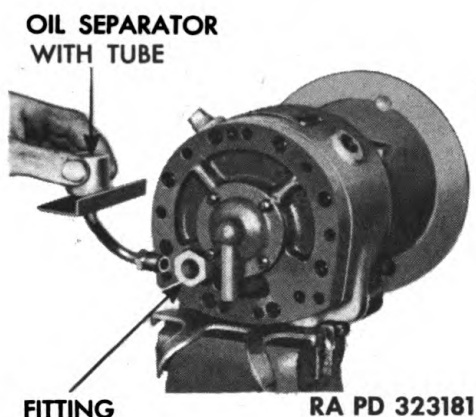

Figure 185 — Removing Oil Separator with Tube
(8) REMOVE OIL SEPARATOR WITH TUBE (fig. 185). Unscrew tube nut from fitting in stator dome end plate.